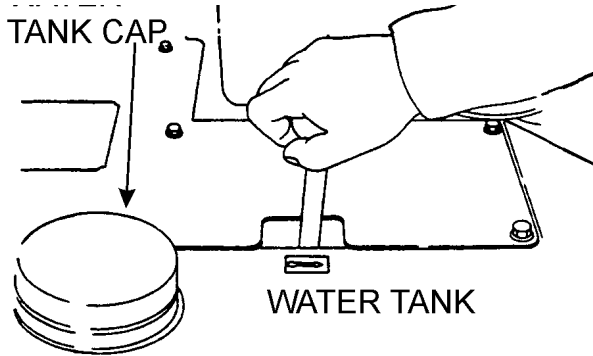

Figure 14. Water Tank Check
1. Check the water tank to see if filled. Add water if necessary. The water tank has a capacity of approximately 6gallons (23 liters) (Figure 14).